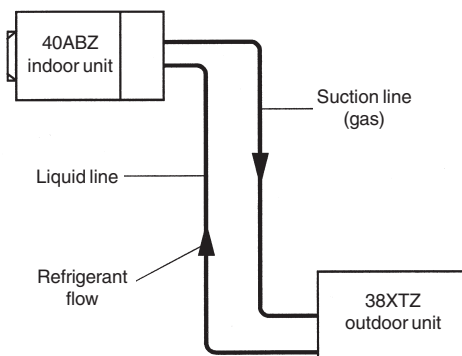

Fig. 46
- Outdoor unit below the indoor unit (Fig. 46). The suction line flow is descending in cooling mode, so that the oil flow is not so problematic.